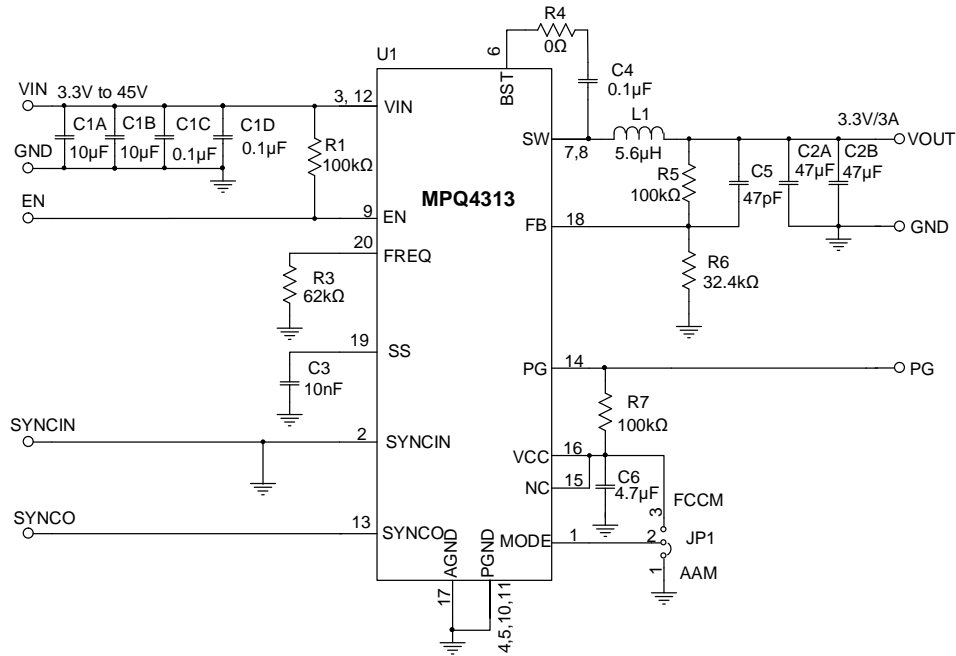

Figure 12: V_{OUT} = 3.3V, f_{sw} = 470kHz
9) The recommended PCB layout is based on Figure 12.